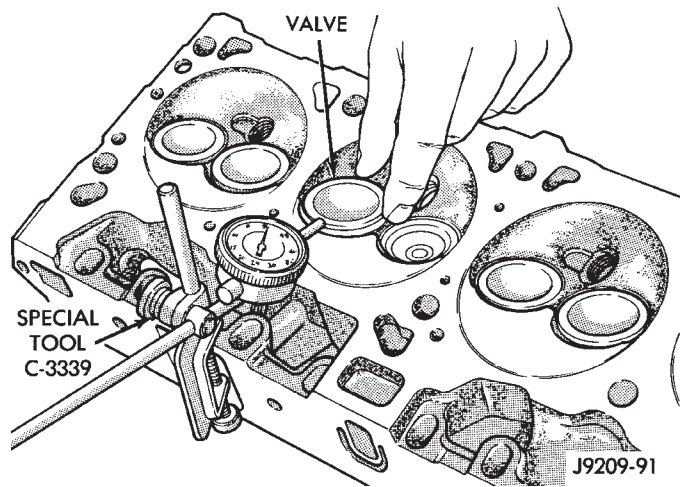

Fig. 16 Measuring Valve Guide Wear
- (b) Attach Dial Indicator Tool C-3339 to cylinder head and set it at right angle of valve stem being measured (Fig. 16).